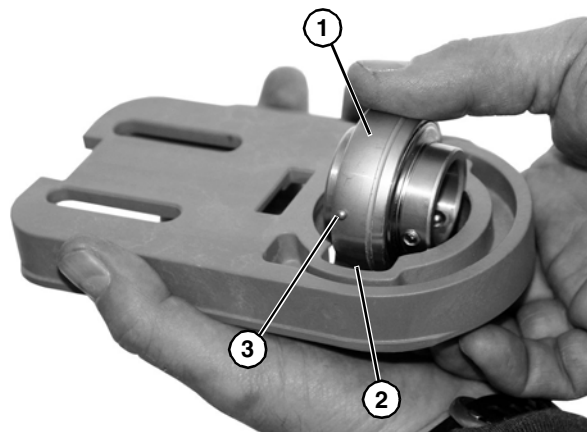

Figure 52
2. Turn bearing (Figure 52, item 1) to align with slots (Figure 52, item 2) in bearing housing. Then remove bearing.
4. Insert bearing (Figure 52, item 1) into housing slot: Locate anti-rotation nub (Figure 52, item 3) to align with slot (Figure 52, item 2), and twist bearing into housing.